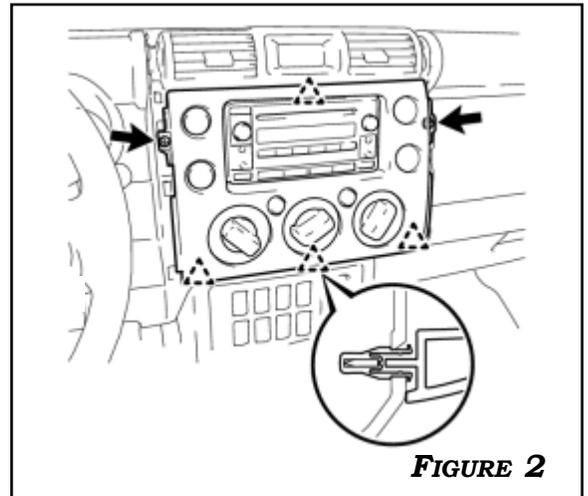

FIGURE 2
2. REMOVE THE 2 SCREWS. DISENGAGE THE 4 CLIPS AND REMOVE THE INTEGRATION CONTROL PANEL ASSEMBLY. DISCONNECT THE 3 CONNECTORS. **FIGURE 2**